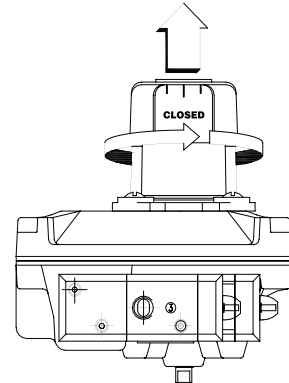

Figure 1
2.4 To release the cover, loosen the cover retaining screws. Twist the cover approx 45° and lift up. See Figure 1.